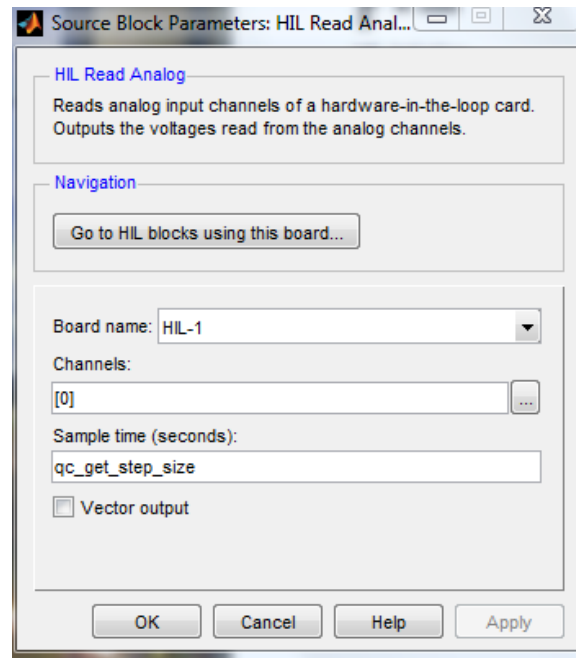

Figure 1.3: HIL Read Analog block settings
11. The input and output channel numbers in the Simulink blocks should match the channels used on the terminal board. Refer to Figures 1.3, 1.4, and 1.5 for the correct channels.